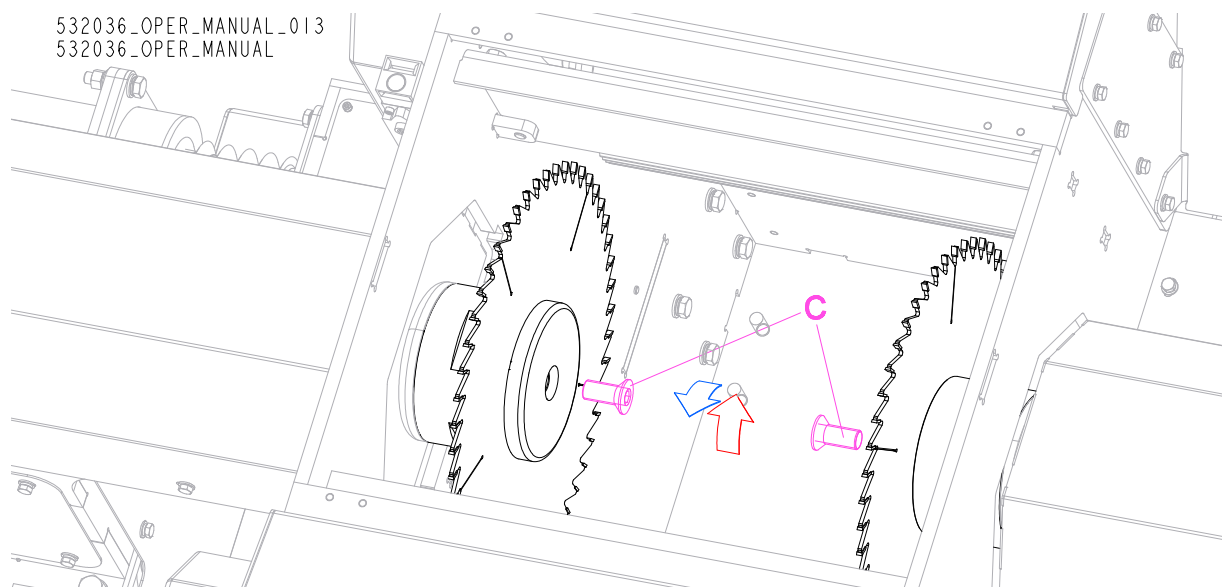

FIG. 5-20
See Figure 5-20.
5. Place the provided wrench (A) on the spacer (B).
6. Use allen wrench to loosen and remove the bolt (C). One of the bolts (C) has right and the other has left thread. Directions of turn to **loosen** or to **tighten** them are showed in Fig. 5-20.
7. Remove arbor cap (D) and replace the blade (E).
8. Refit arbor cap (D), mount and tighten allen bolt (C), remove wrench (A)